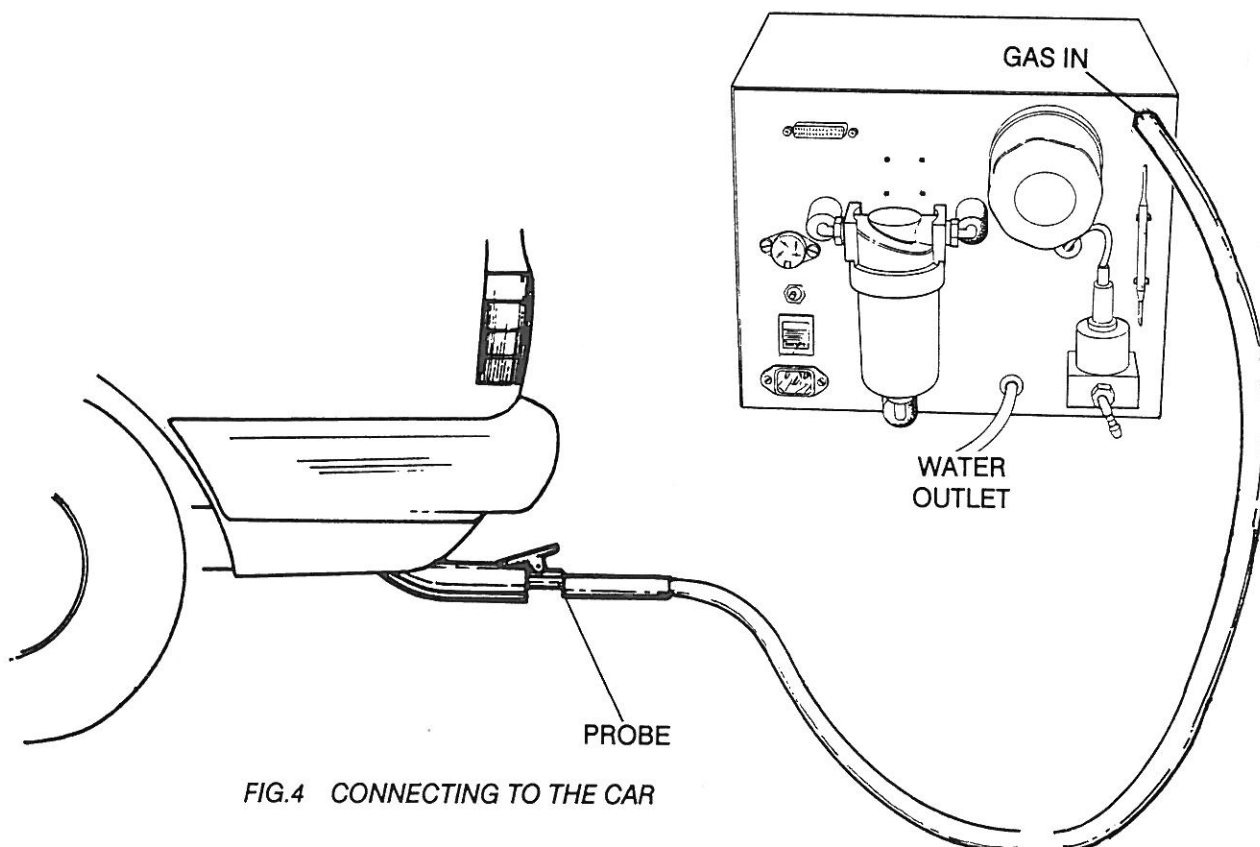

FIG.4 CONNECTING TO THE CAR
5. Connect the gas sampler pipe to the inlet pipe on the rear panel of the analyser and insert the probe into the vehicle tailpipe (see Fig.4).